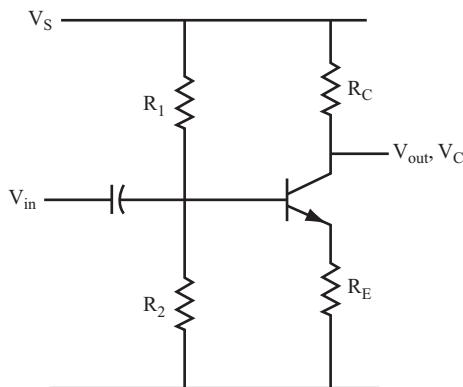

FIGURE 12.11
- 49.** Using the amplifier circuit shown in Figure 12.11, find the values of R_1 , R_2 , and R_E that can provide the amplifier with a voltage gain of 10. Use $V_s = 28 \text{ volts}$, $R_C = 1 \text{ k}\Omega$, and $\beta = 100$. _____
- 50.** Again, using the circuit shown in Figure 12.11, find the values of R_1 , R_2 , and R_E that can provide the amplifier a voltage gain of 20. Use $V_s = 10 \text{ volts}$, $R_C = 2.2 \text{ k}\Omega$, and $\beta = 50$. _____
- 51.** Using the circuit shown in Figure 12.11, how would you modify the amplifier in question 50 to obtain a maximum gain? Assume that the lowest frequency it has to pass is 50 Hz. _____